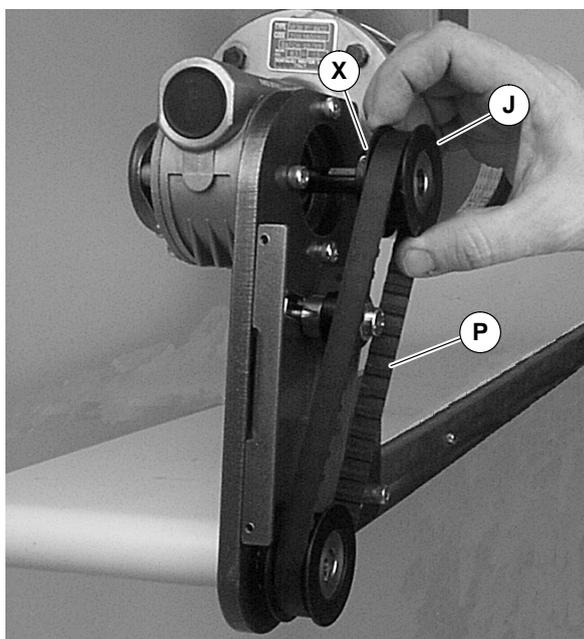

Figure 13
NOTE: If drive pulley (J of Figure 13) is replaced, wrap timing belt around drive pulley and complete step 3.
3. Loosen drive pulley set screws (X of Figure 13). Remove drive pulley (J) and timing belt (P).
NOTE: Drive pulley (J of Figure 13) is removed. Wrap timing belt around drive pulley and complete step 13.